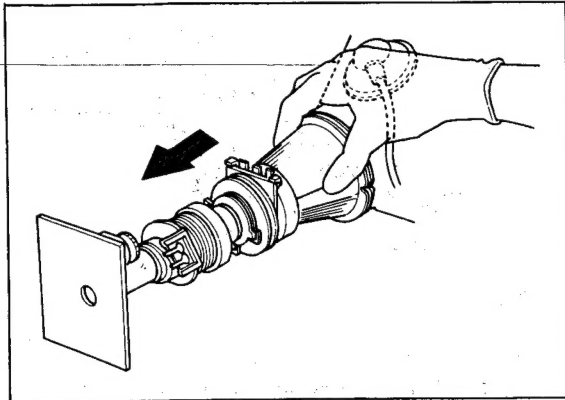
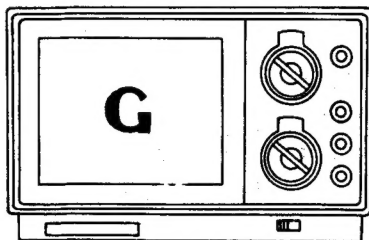

Fig. 3-7. Deflection yoke movement
Fig. 3-8. Green raster screen
- (6) Slide the deflection yoke backward to obtain a uniform green over the entire screen as shown in Fig. 3-7 and Fig. 3-8.